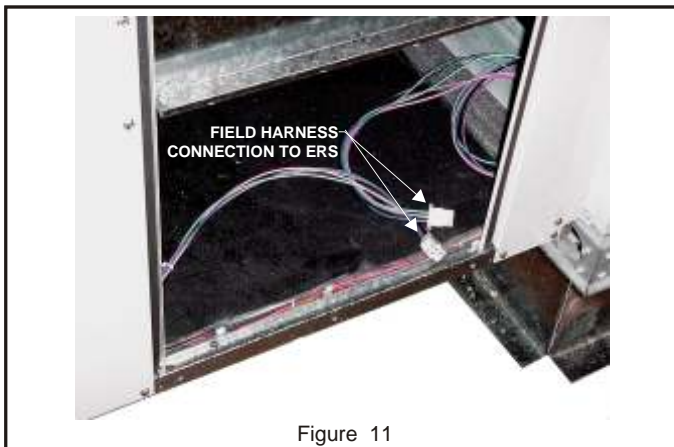
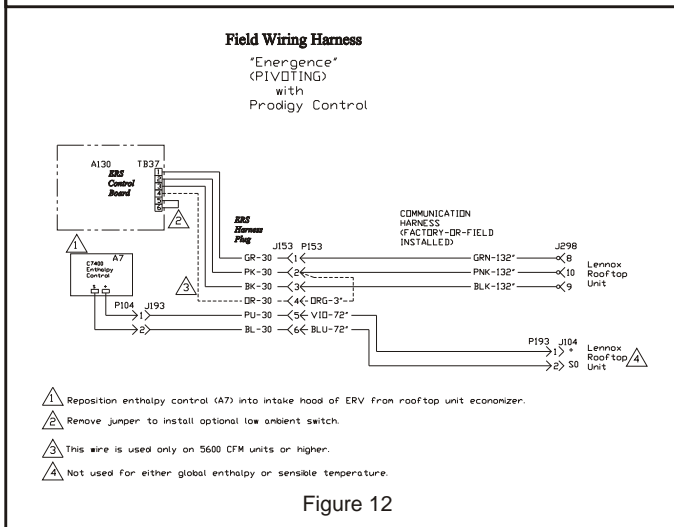

Figure 11
Figure 12
10. Remove the control access panel and locate the 6-pin connector P153 wiring harness that was previously routed into the return air of the rooftop unit. Plug the harness connector P153 into the connector J153 located at the bottom of the access door inside the ERS. **See Figure 11 and Figure 12.**